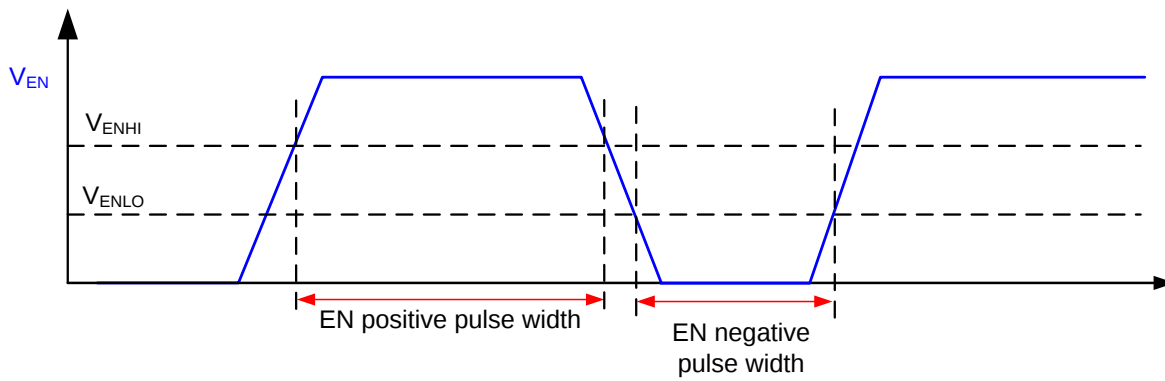

Figure 12B: Enable timing waveform
This pin is used to activate the IC "sleep" mode by pulling the voltage level below 1.6V (typ). In sleep mode the IC will consume a minimum amount of current. All switching functions will be disabled and the gate will be inactive. The EN pin voltage cannot linger between the Enable low and Enable high thresholds. The pin is intended to operate as a switch with the pin voltage either above or below the threshold range. The Enable control pin (EN) is not intended to operate at high frequency. For proper operation, EN positive pulse width needs to be longer than 20μs, EN negative pulse width needs to be longer than 10μs. Please refer to Figure 12B for definition the definition of EN pulse width.